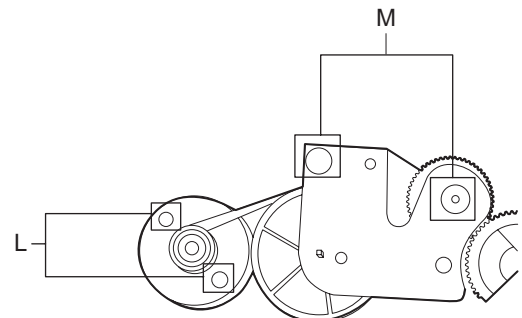

Fig.17
3.1.10 Replacing the loading motor and rotor belt of the CD changer (See Fig .17)